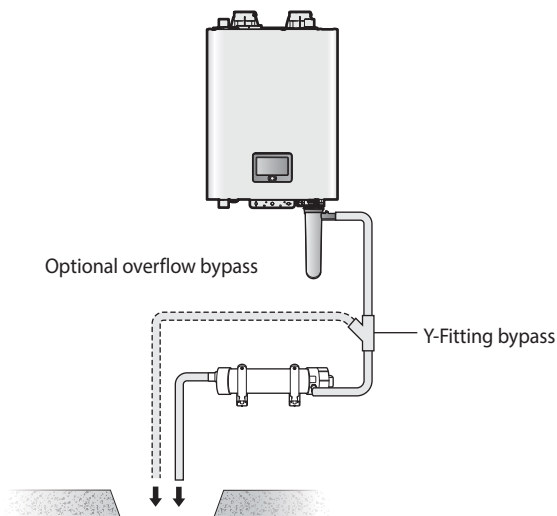

Figure 1. Horizontal installation
- When mounting on the wall or floor, the neutralizer must be installed in a **horizontal** position as shown in Figure 1 below.